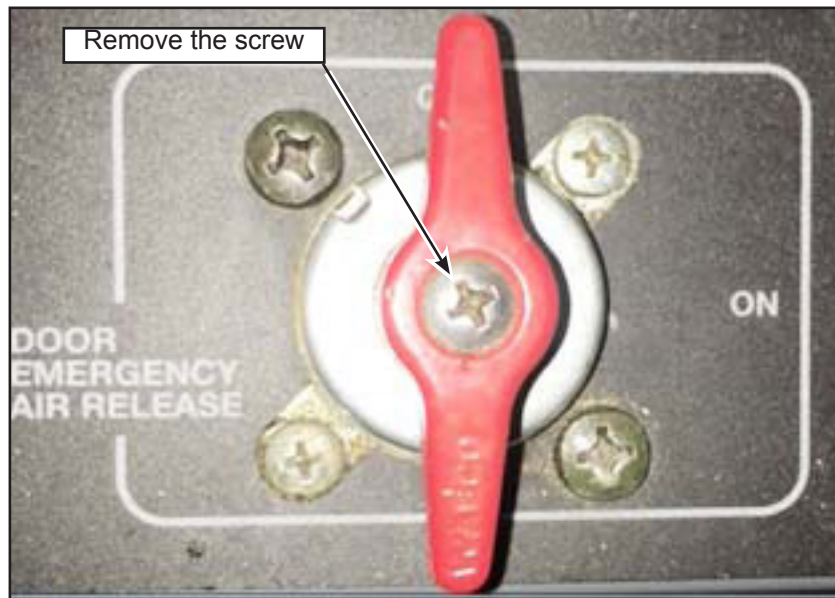

Figure 3 - Remove Philips-Head Screw on Handle
- 1.4. Remove the Philips-head screw that secures the valve handle (see Figure 3).